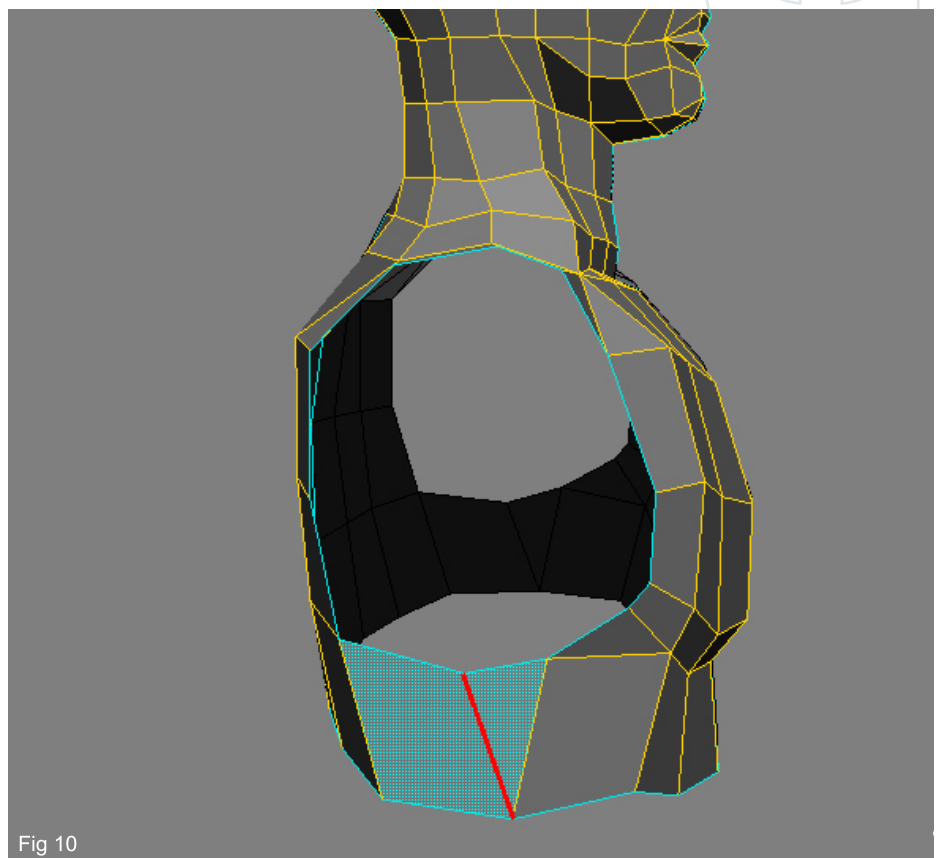

Fig 10
10. Use the 'N' shortcut key to create a new poly that closes the gap between the front and back of the chest, as shown in Fig10. Also, add a new cut (marked in red in Fig10).